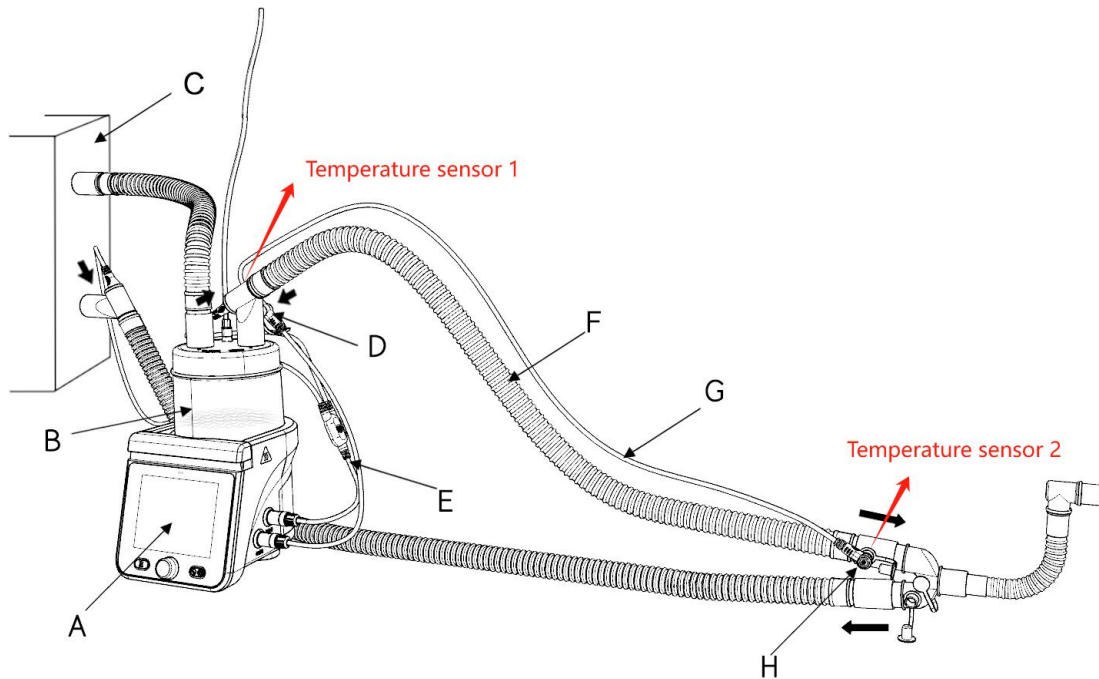

Figure 5 The connection of accessories in invasive mode(For RH-800P only)
3. For Invasive Mode and Smart Non-invasive mode: Insert the Temperature Probe Connector to the blue socket on the Humidifier. See Figure 5 and Figure 6 for detail.
4. For Invasive Mode and Smart Non-invasive mode: Push the Chamber Probe and Airway Probe into the Breathing Circuit making sure they are correctly located and pushed into place. The probe lead can be secured using Breathing Circuit Clips. See Figure 5 and Figure 6 for detail.
5. For Invasive Mode and Smart Non-invasive mode: Insert the Heater-wire Adapter Connector to the yellow socket on the Humidifier. See Figure 5 and Figure 6 for detail.
6. For Invasive Mode and Smart Non-invasive mode: Connect the other end of the Heater-wire Adapter to the Breathing Circuit socket. The humidification system is now set up. See Figure 5 and Figure 6 for detail.
- The Airway Temp is identical to the temperature of Breathing tube's Temperature sensor 2 (Location is shown in Figure 5).
- The Chamber Exit Temp is identical to the temperature of Breathing tube's Temperature sensor 1 (Location is shown in Figure 5).